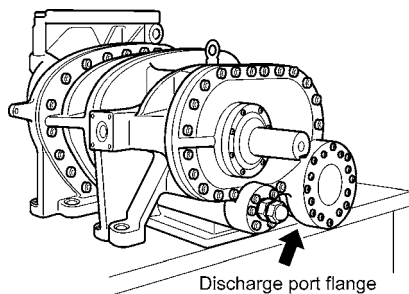
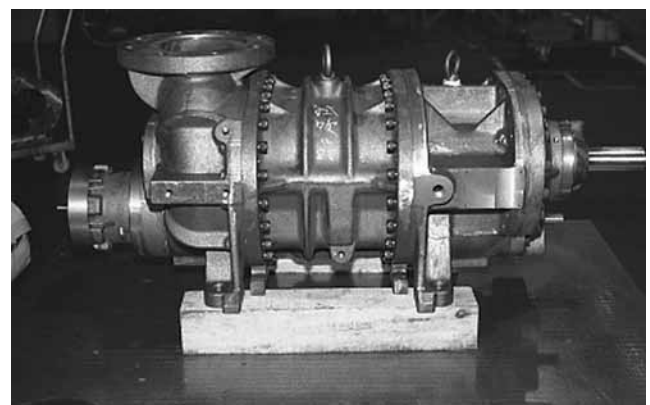

Fig. 3-5 Extending Flange to Outside of Workbench
Fig. 3-6 Using Wooden Brocks
- In the case of a D version model, which has a discharge port facing down and thus a discharge port flange extending downward from the leg plane of the suction cover and bearing head, place the compressor with the flange portion outside of the workbench edge (see Fig. 3-5). Alternatively, place wooden brocks high enough to provide the flange with clearance from the workbench surface below the legs of the suction cover and bearing head and lower the compressor on the wooden blocks (see Fig. 3-6).